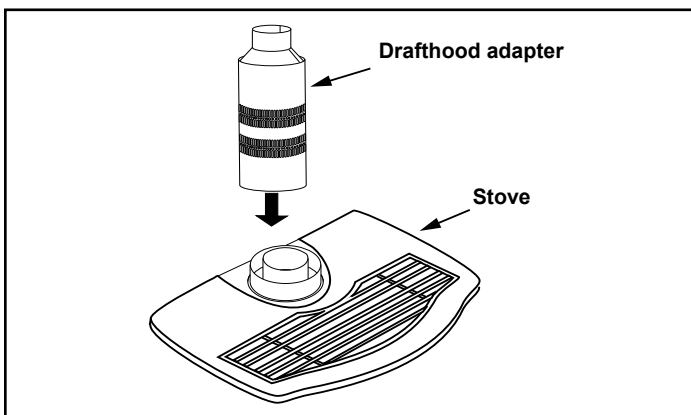
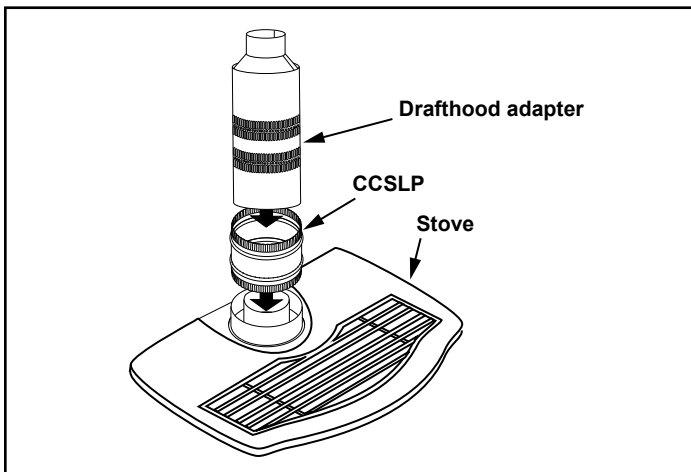

Figure 4 - Install draft hood adapter.
Figure 5 - Install draft hood adapter. (with CCSLP)
5. Align and slide the draft hood adapter over the 6-5/8" and 4" flanges and push the adapter all the way to the bottom of the flanges, Figure 4. The draft hood adapter must be secured to the vent flanges with either self-tapping screws or high temperature sealant. For applications such as the SDVT and OXDV30 a CCSLP adapter must be installed before the draft hood adapter can be connected, Figure 5.